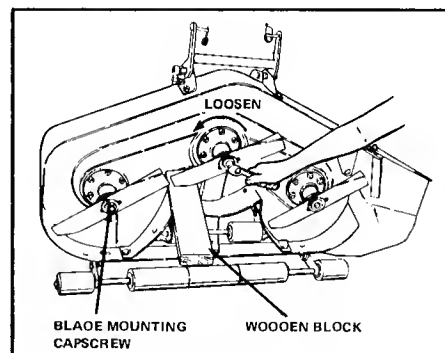

Figure 13. Loosen Blade
3. To remove blade for sharpening, use wooden block to hold blade while removing its blade mounting capscrew (figure 13).